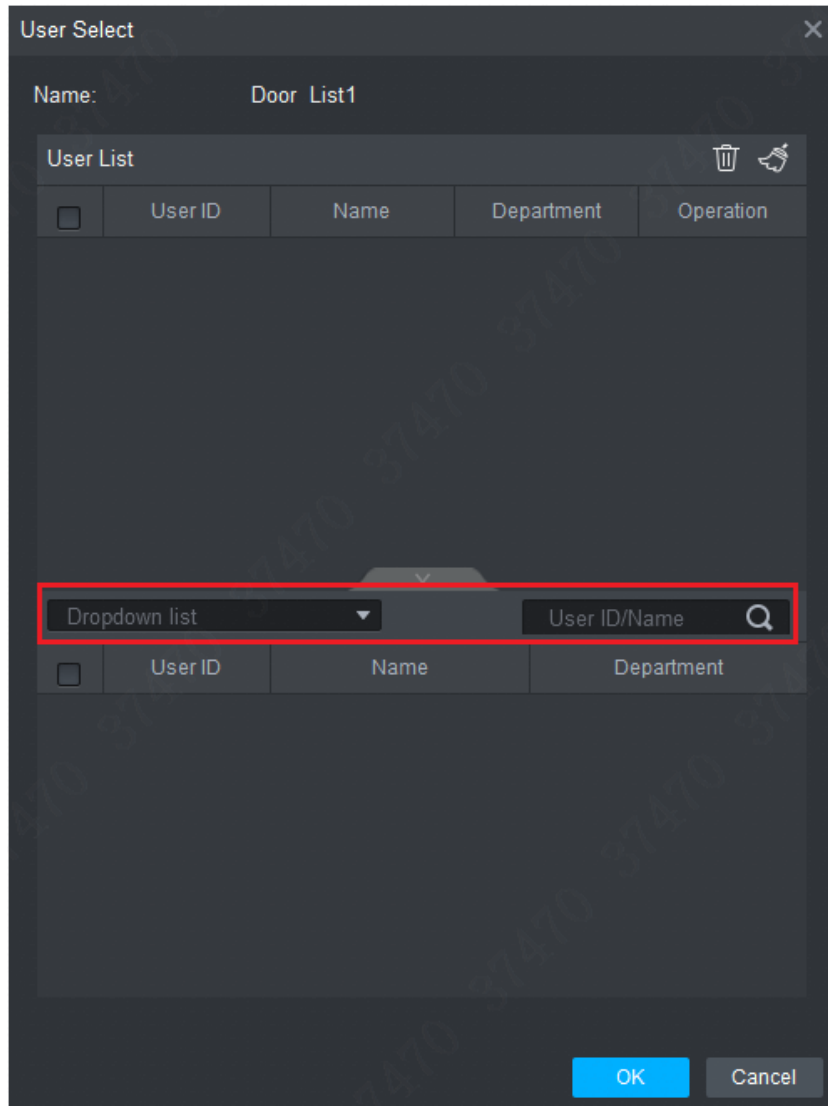

Figure 4-16
Step 3 Select the user’s department from dropdown list, or enter the user’s ID or name directly, as shown in Figure 4-16.